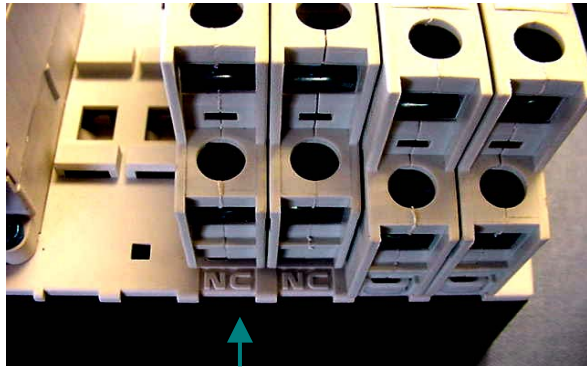

Figure 3
3. Check for the lettering on the base. “NO” should be visible if the power pole is assembled as normally open, and “NC” should be visible if it is assembled as normally closed (see Figure 3).